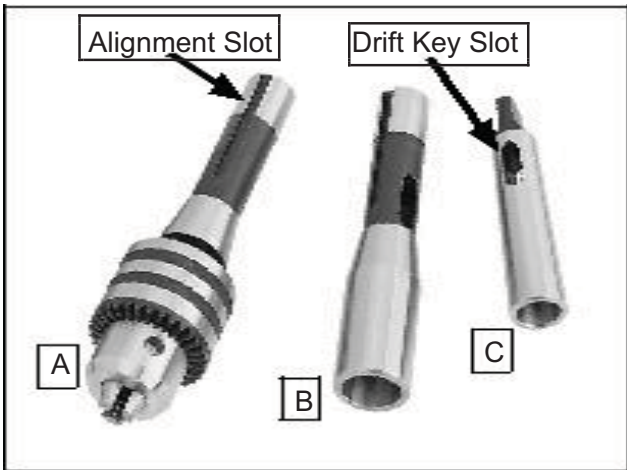

Figure 21. Drill chuck and arbors
The mill includes the following spindle tools (see Figure 21):
3. Align tool holder alignment slot (see Figure 21) with pin inside spindle, then insert tool holder into spindle until it contacts drawbar.